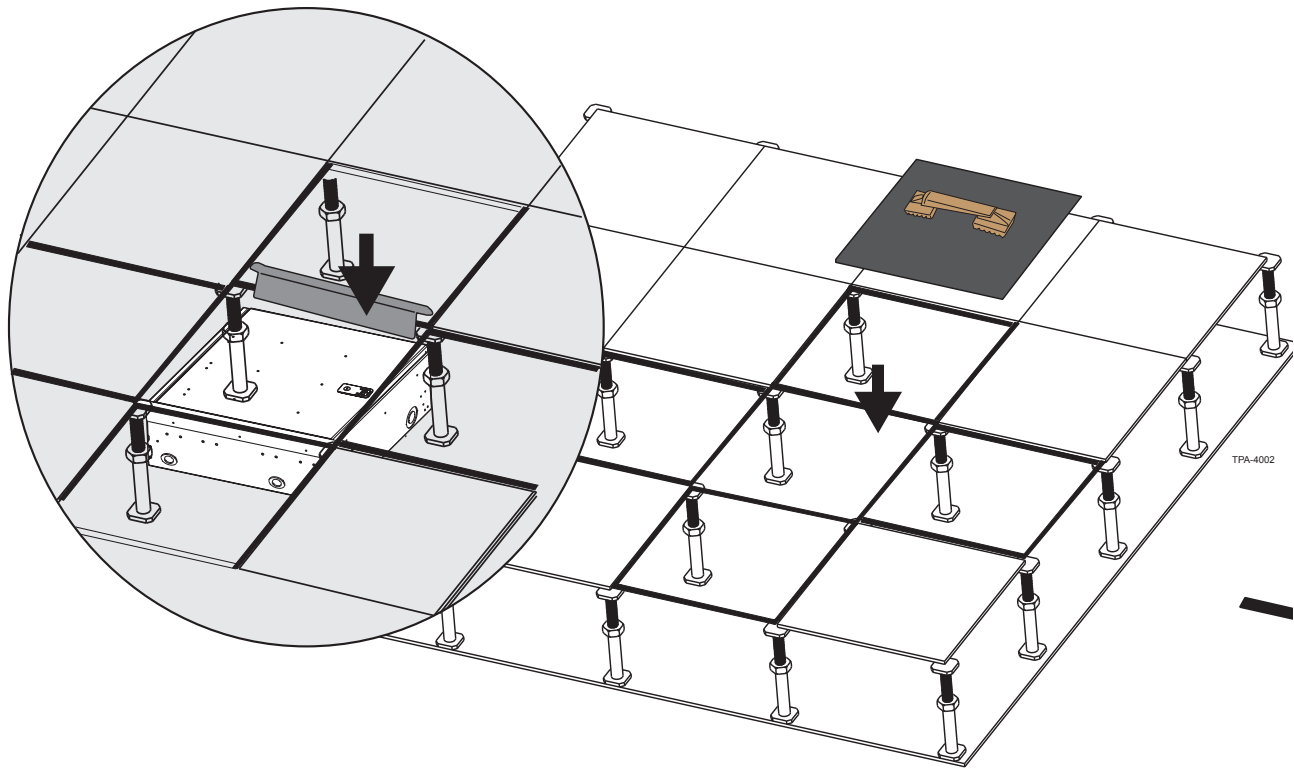

Figure 8
- Step 1:** Remove one of the trim plates and reinsert the housing into the center opening. Allow the side where the trim plate was removed to drop below the stringer on that side (Figure 8).
- Step 2:** Position the trim plate into the gap between the stringer and the FZB. Reinstall the trim plate to the side of the unit with the provided screws (Figure 8 inset). (It may require two people to perform this operation.)